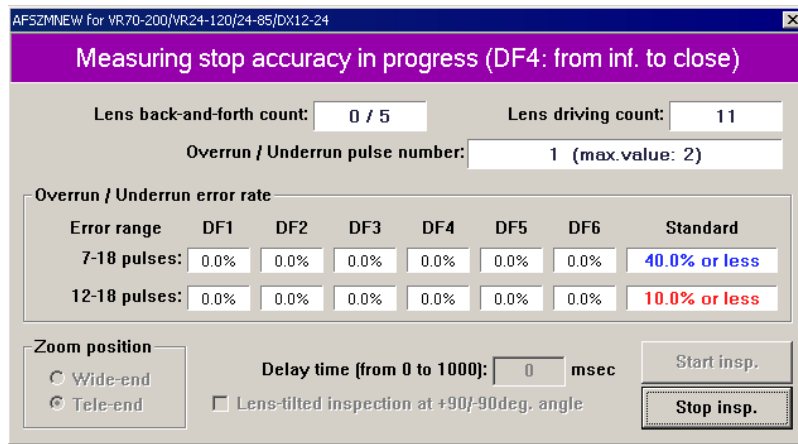

Fig.1
③ During the lens driving, the screen of "Fig.1" appears.